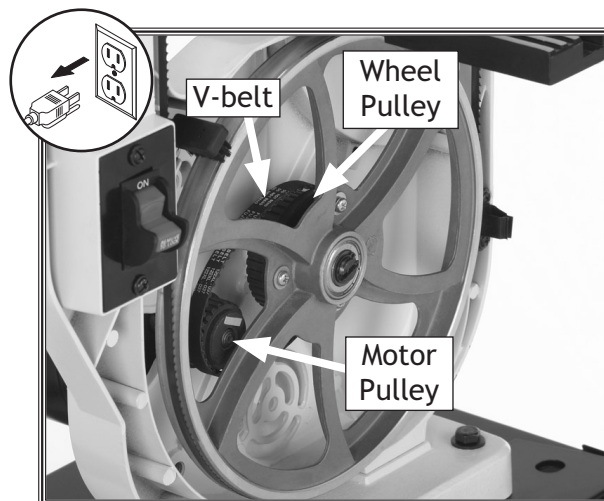

Figure 54. New V-belt installed on motor pulley and wheel.
5. Place a new V-belt on the wheel and motor pulleys, making sure the teeth on the V-belt (**Figure 54**) and the pulleys mesh.